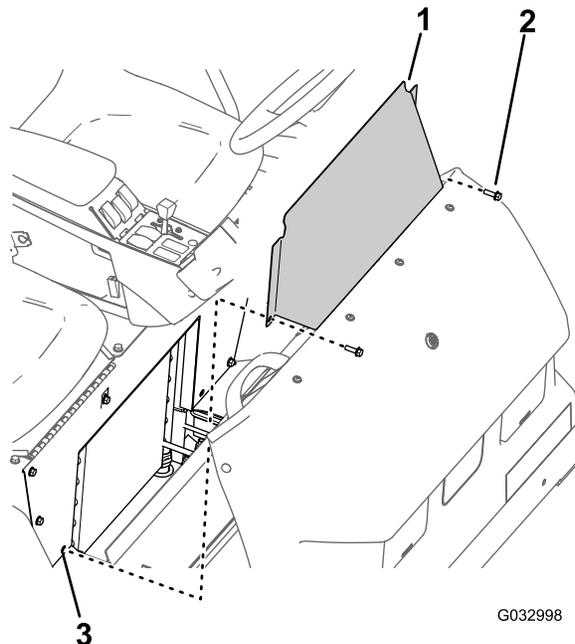

Figure 66
1. Remove the 2 flanged-head bolts that secure the seat-base-access panel to the seat base (Figure 66).
2. Remove the seat-base-access panel from the machine (Figure 66).
1. Align the holes in the seat-base-access panel with the holes in the seat base (Figure 66).
2. Assemble the seat-base-access panel to the seat base with the 2 flanged-head bolts (Figure 66) that you removed in step 1 of Removing the Seat-Base-Access Panel (page 52).